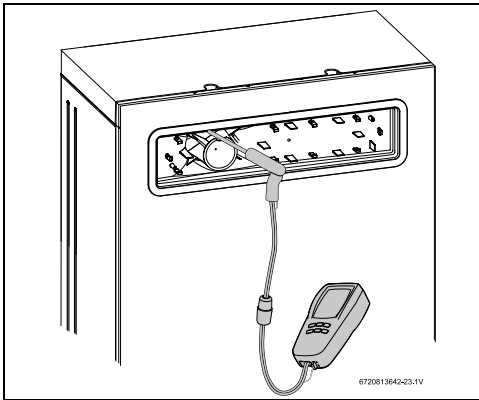

Fig. 51 Measuring port
- Insert analyzer probe into the measuring port (approx. 1.5" inserted), see fig. 51.